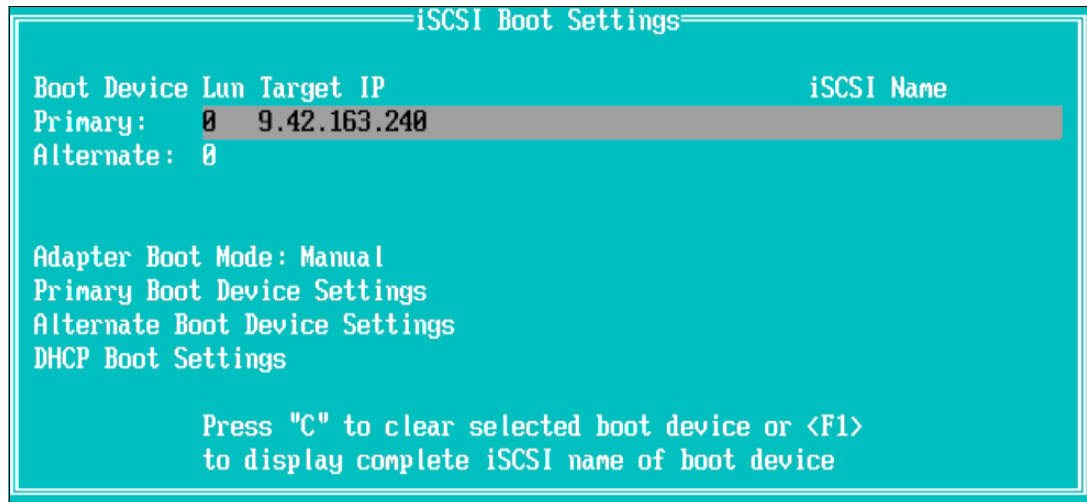

Figure 6-14 HBA Target Set
9. Change the *Adapter Boot Mode* to **Manual** to enable the BIOS on this port. The resulting panel looks similar to Figure 6-14.